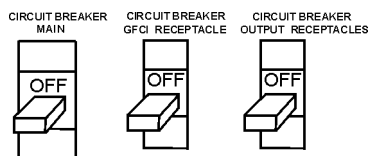

Figure 18. Main, GFCI and Load Circuit Breakers
1. Be sure to disconnect the electrical load and switch the **main**, **load** and **G.F.C.I.** circuit breakers (Figure 18) to the "OFF" position prior to starting the engine.
Remember that these receptacles will **ONLY** function when commercial power has been supplied to them (Figure 18). To apply commercial power to these receptacles, a power cord of adequate size will be required.